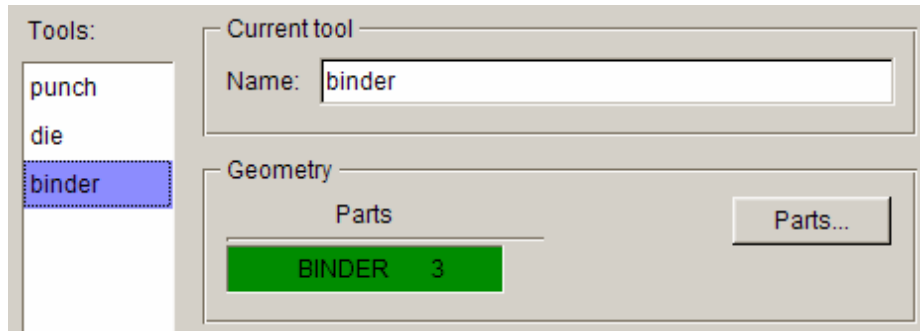

Figure 7.25 Binder definition interface
25. Click **Exit** button to return to tool definition interface. Now, you can observe the font color of **binder** is changed to BLACK. See Figure 7.25.